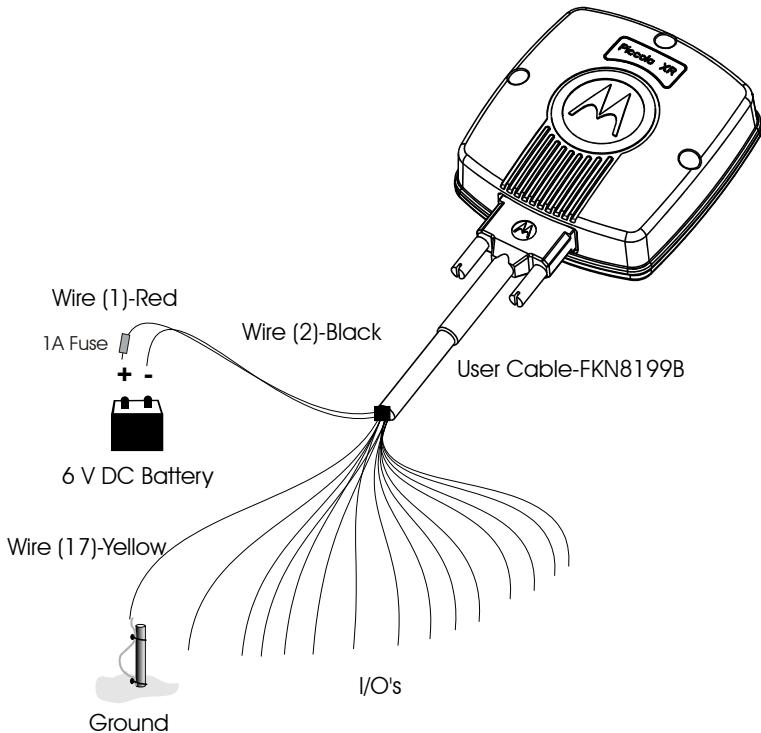

Figure 16
Connect the yellow wire (17) of the FKN8199B user cable to the PGND, as shown in Figure 16.
Use the FKN8199B cable to connect the Piccolo-XR to an external battery. Connect Wire #1 (red) to the positive (+) pole of the battery through a 1A fuse (not supplied) and wire #2 (black) to the battery negative (-) pole. See Figure 16.